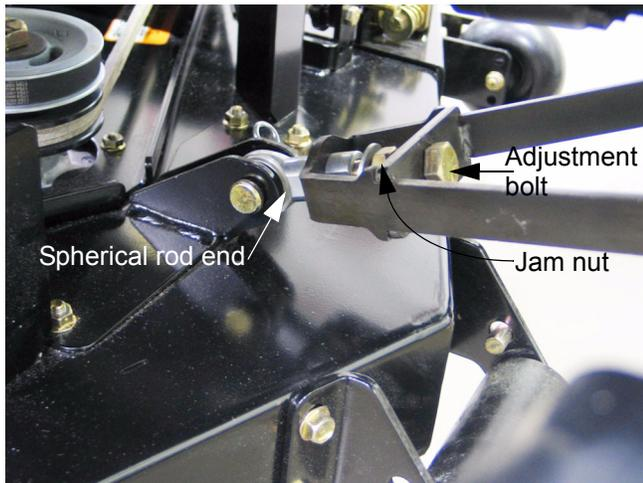

Figure 9.6
- 9.6. **Deck pitch adjustment:** Mowers produced before November 2005. See Figure 9.6.